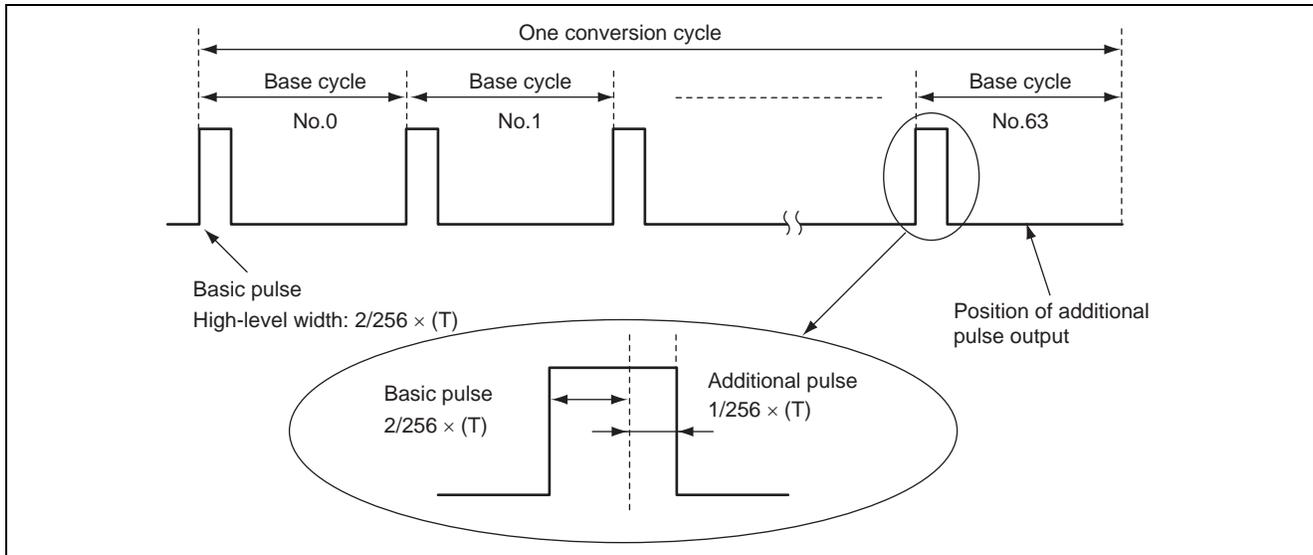

Figure 4 Output Waveform with Additional Pulse (DADR = H'0207, CFS = 1, OS = 1)
In this example, assume that $DADR = H'0207$ (B'0000 0010 0000 0111). The output waveform is shown in figure 4. Since $CFS = 1$ and the upper 8 bits are valued B'0000 0010, the duty cycle of the basic pulse is determined by the high-level pulse width of $2/256 \times (T)$. Since the lower 6 bits are valued B'0000 0111, the additional pulse is only output for the 63rd basic pulse. (For details on the specification of additional pulse positions, refer to the hardware manual.) The additional pulse is added to a basic pulse by extending the pulse width by $1/256 \times (T)$.